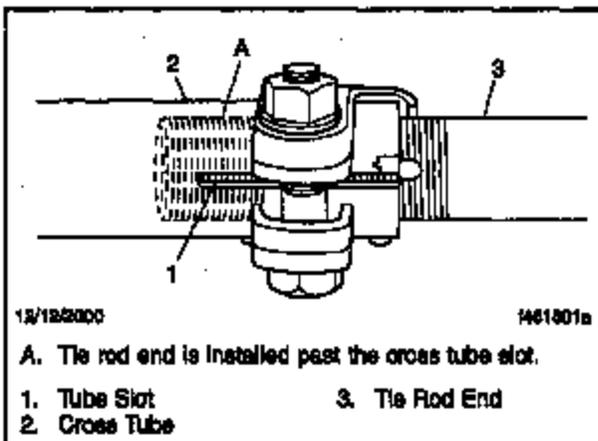

Fig. 5, Bottom View of Tie Rod End and Cross Tube
1. Use the thread count as a guide and install the tie rod ends in the threaded cross tube ends to the approximate depth marked during the tie rod assembly removal. Both tie rod ends must be installed in the cross tube deeper than the end of the cross tube slot. See Fig. 5.